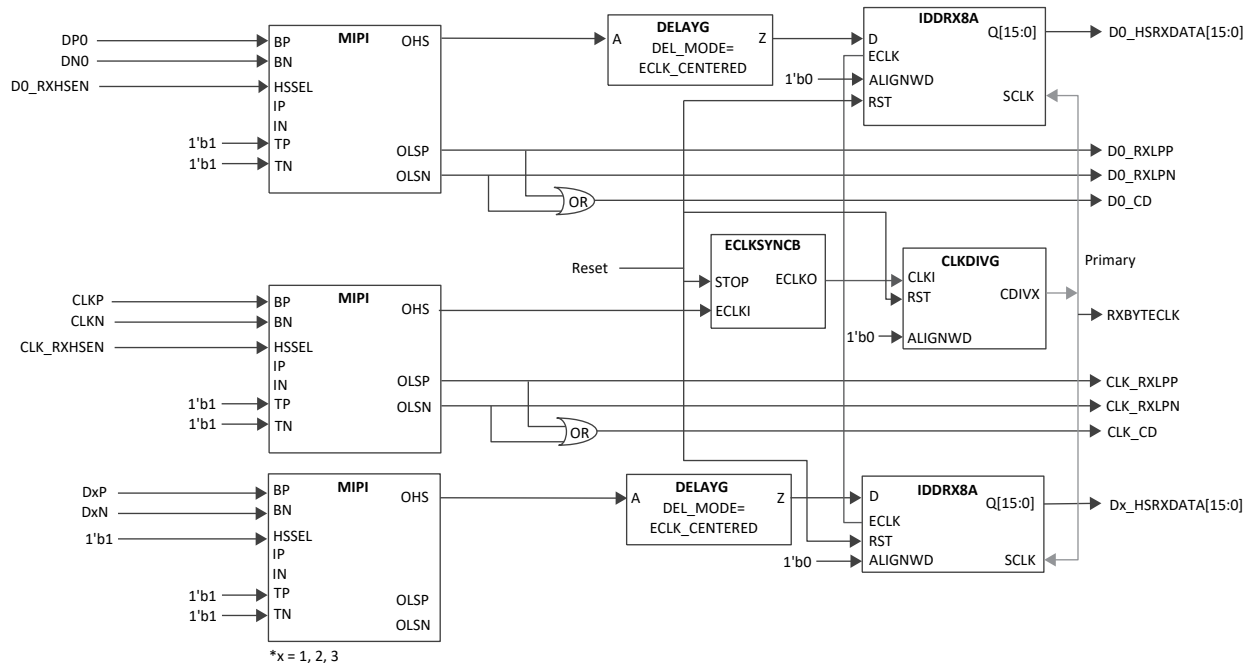

Figure 5.15. MIPI CSI-2 Receive Interface with Soft D-PHY Module
- The RXHSEN inputs to the interface block are tied to the HSEL input of the MIPI buffer to switch between the High-Speed and Low-Power modes. The transitions between High-Speed (HS) and Low-Power (LP).
- The OLSP and OLSN outputs of MIPI are active and transmitting data on the RXLPP and RXLPN ports to the fabric as shown in Figure 5.15. The OLSP and OLSN states are also used to generate the D0_CD or CLK_CD signals, which can be monitored by the fabric for contention detection.
Note: Figure 5.15 shows the X8 gearing interface. X4 is similar but uses the IDDRX4C primitive.